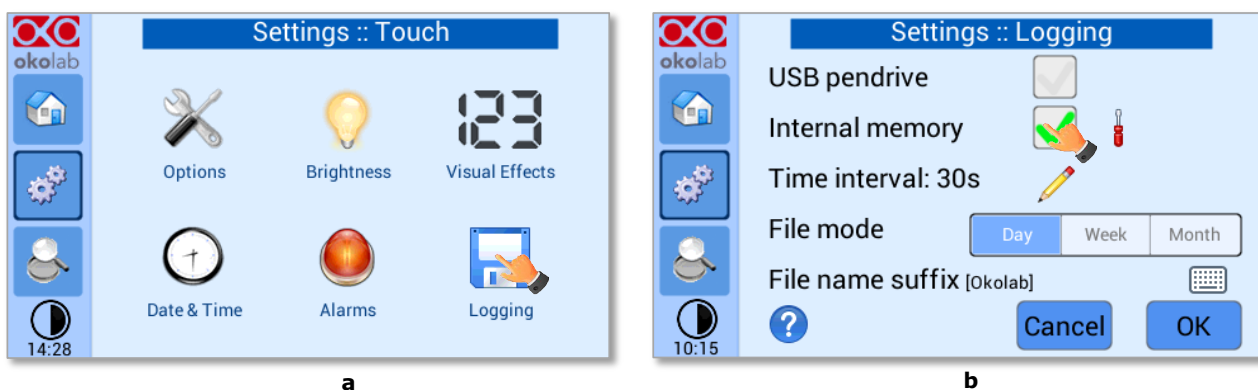

Figure 56. Logging. (a) How to enter in the logging menu; (b) logging in internal memory
2. Press on *Logging* icon  and flag *Internal memory* in the page that appears, see Figure 56 a and b.